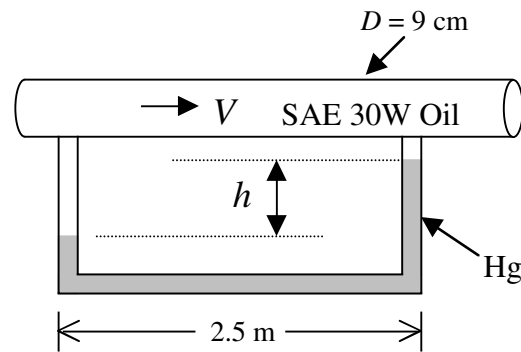

Fig. P4.87
**4.87** SAE 30W oil at 20°C flows through the 9-cm-diameter pipe in Fig. P4.87 at an average velocity of 4.3 m/s. (a) Verify that the flow is laminar. (b) Determine the volume flow rate in  $\text{m}^3/\text{h}$ . (c) Calculate the expected reading  $h$  of the mercury manometer, in cm.